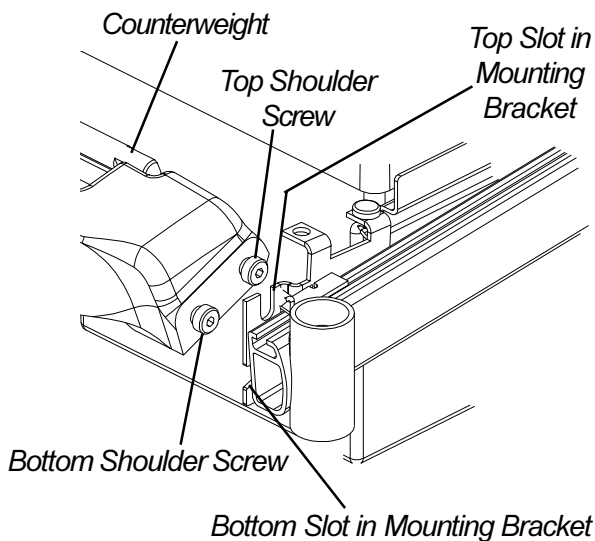

FIGURE 4 - REMOVING/INSTALLING
**REMOVING/INSTALLING COUNTERWEIGHT (FIGURE 4)**